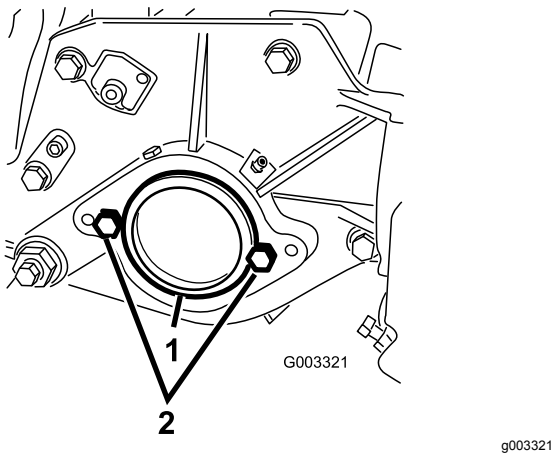

Figure 11
2. On the right end of the cutting unit, remove the plastic plug from the bearing housing (Figure 11).
3. Remove the 2 cap screws from the right side plate (Figure 11).
2. Cap screw (2)
5. Loosely install the 2 reel motor mounting cap screws to the left side plate of the cutting unit (Figure 11).